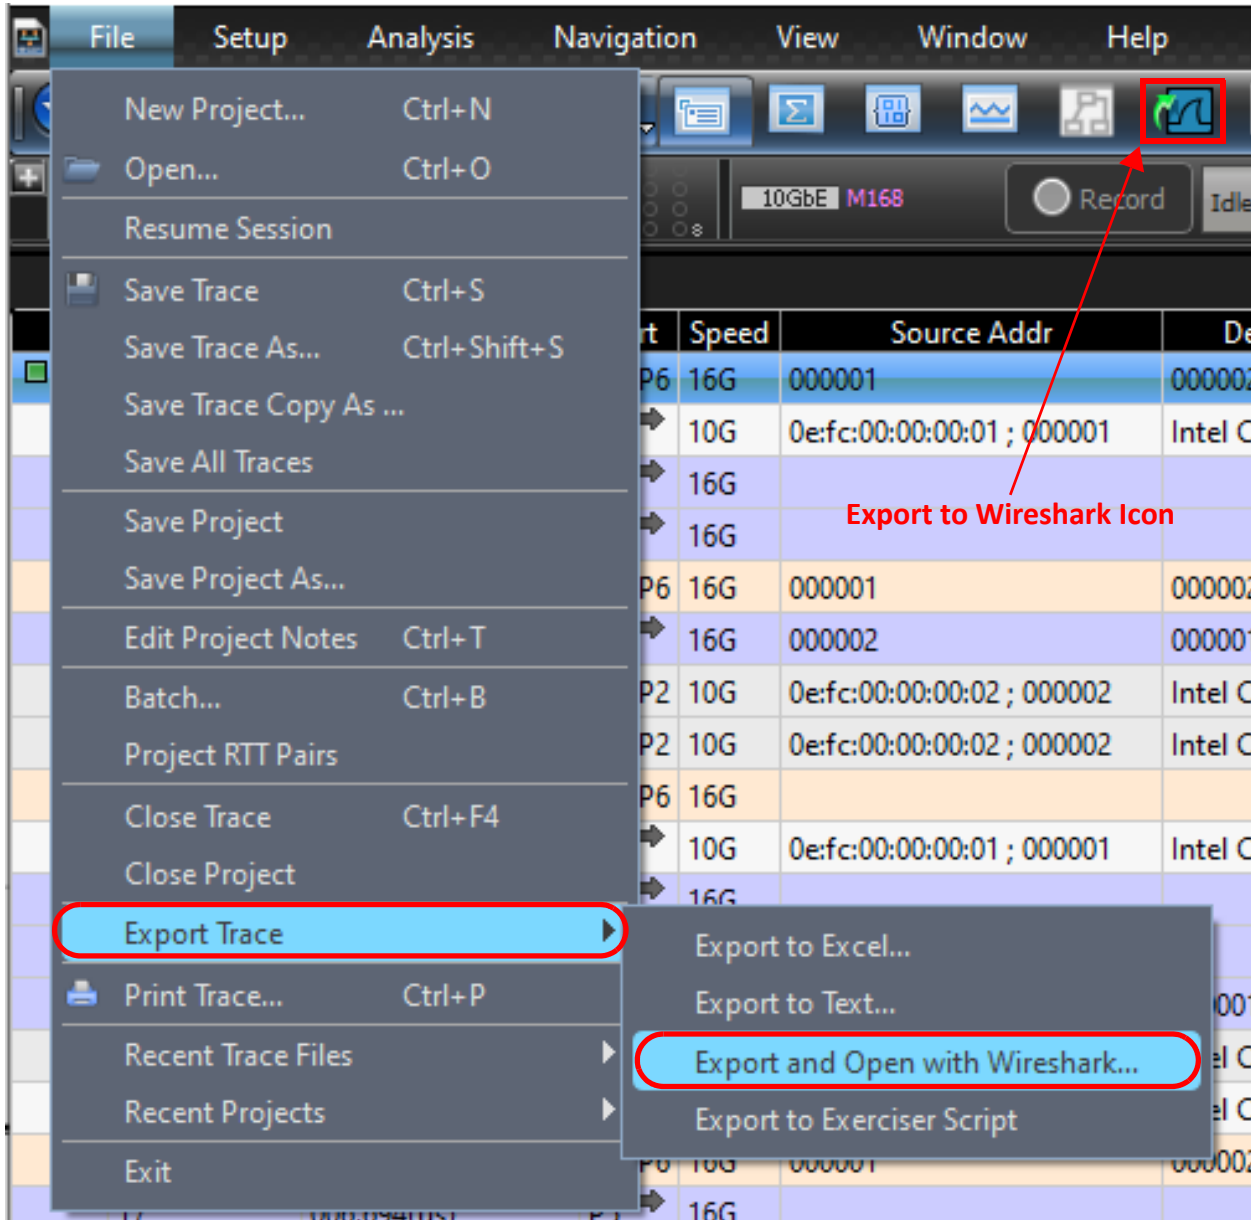

Figure 3.40: Export and Open with Wireshark
- ❑ Click the **Export to Wireshark** icon  (Figure 3.40).